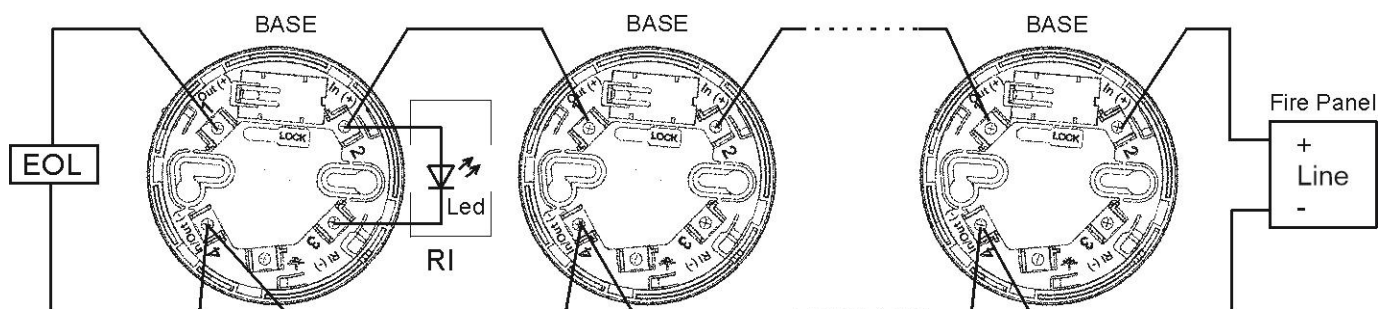

Fig.1
- Connect the electrical cables according to the attached diagram ( Figure 1);